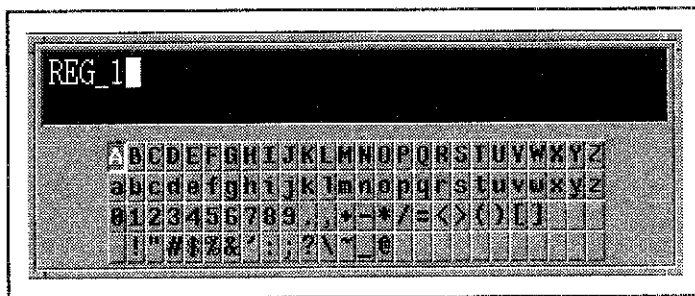

Figure 7-12 Label Window Display
- ① Press the **[SAVE]** to call the save menu. (Refer to senction A.4.)
- ② Press the **{SAVE REGISTER}** to call the save register menu.
- ③ Press the **{RENAME REG}** to display the label window and calls the name editing menu.
- ④ Name editing menu
- {EDIT NAME}** : Displays the label window (Figure 7-12) and calls the character editing menu. (See step ⑤.)
- ① Press the **[SAVE]** to call the save menu. (Refer to section A.4.)
- ② Press the **{STORE FILE}** to call the store file menu.
- ③ Press the **{NAME↑}**, **{NAME↓}** to select a desired file name.
- ④ Press the **{EDIT NAME}** to display the label window (Figure 7-12) and calls the character editing menu.
- ⑤ Character menu